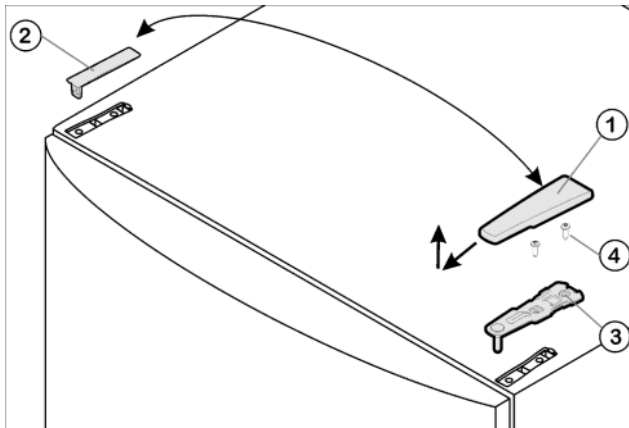

Fig. 4
- ▶ Pull off the cover Fig. 4 (1) forwards and upwards.
- ▶ Lift off the cover Fig. 4 (2).
- ▶ Unscrew the upper turn hinge Fig. 4 (3) (2x Torx® 25) Fig. 4 (4) and lift it off.
- ▶ Insert the upper turn hinge Fig. 4 (3) in the door on the new hinge side.
- ▶ Screw the upper turn hinge **firmly** into place (**with 4 Nm**) (2x Torx® 25) Fig. 4 (4). Possibly make preliminary holes with a bradawl or use a cordless screwdriver.
- ▶ Apply the cover Fig. 4 (1) and cover Fig. 4 (2) to the opposite side from the outside and snap them into place.